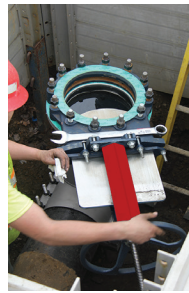

Figure 45
NOTE: Temporary gate valves are single direction valves and must be positioned top up. The 12" gate temporary valve must be installed with the red bar facing up (see Figure 45).
4.2.4 Install green fiber gasket (without holes) on the top side of temporary gate valve (see Figure 45).